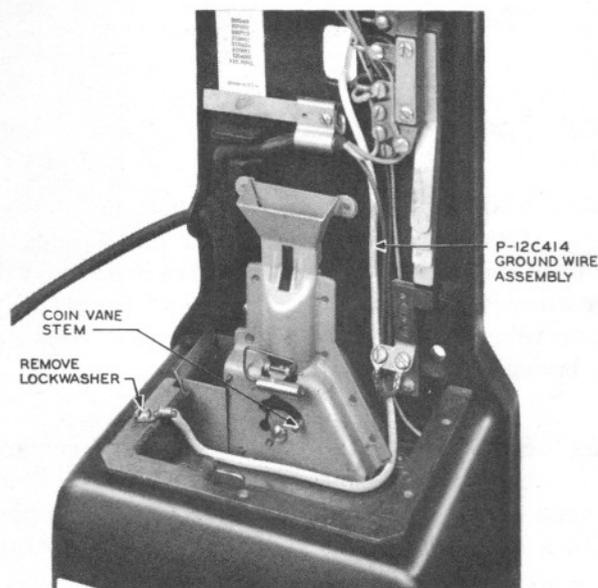

Fig. 7 — Method of Grounding Backplate Assembly, Indoor Booth
- In indoor booth, a No. 14-gauge insulated ground wire (P-12C414 ground wire assembly) is provided as covered in the C Section entitled Booths and Shelves, Indoor, Installation. Connect and dress wire as shown in Fig. 7. At prepay station, dress wire so that it will not interfere with operation of coin relay or placing of coin relay shield.